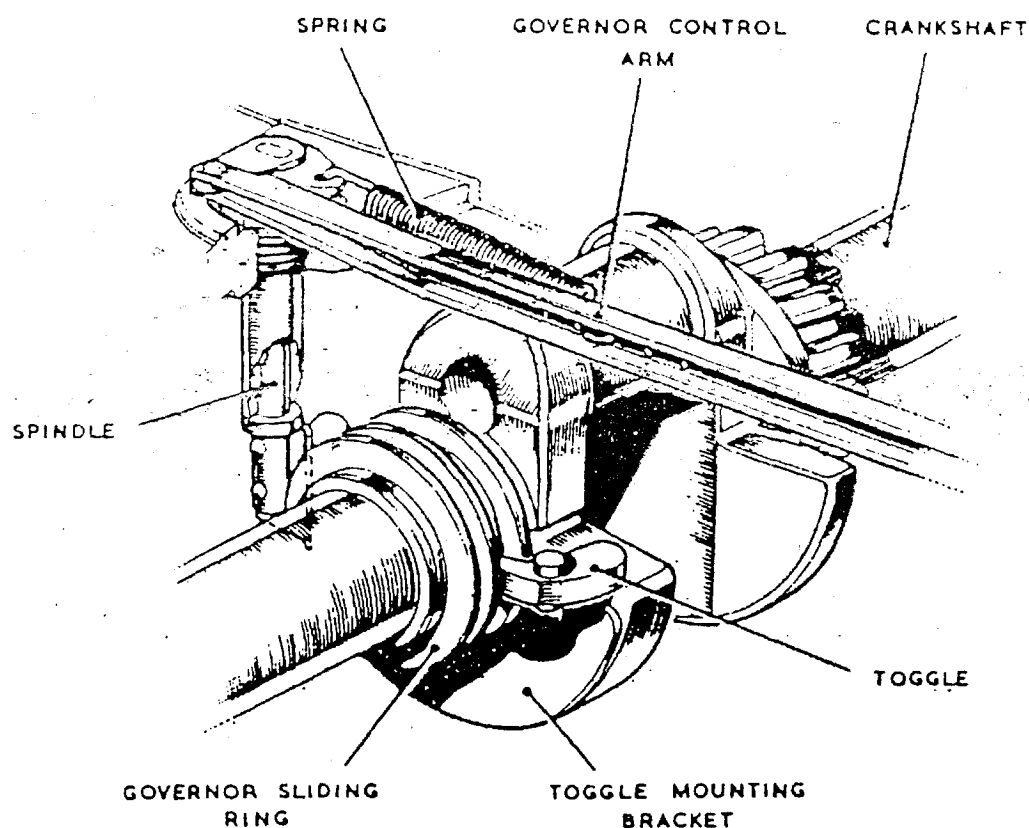

Fig. 4. The Governor.
1.3.4. The Governor Fig.4. The governor driving mechanism is fitted on the generator end of the crankshaft. It comprises a spindle, a sleeve having two parallel grooves cut in its periphery and a pair of toggles that pivot on a bracket secured to the side of the crank web. The top end of the spindle projects through the crankcase and is secured in position by means of a screwed bush. The bottom end of